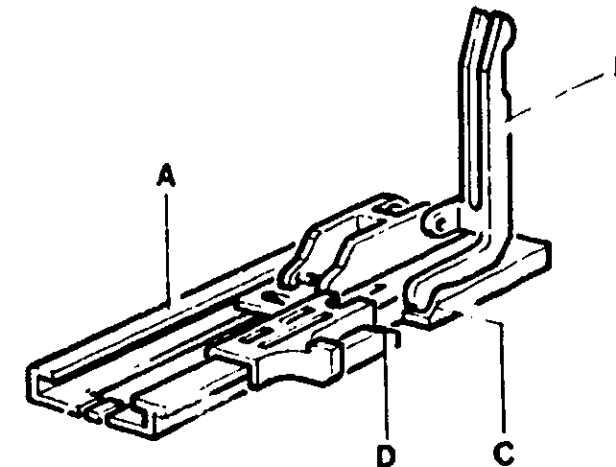
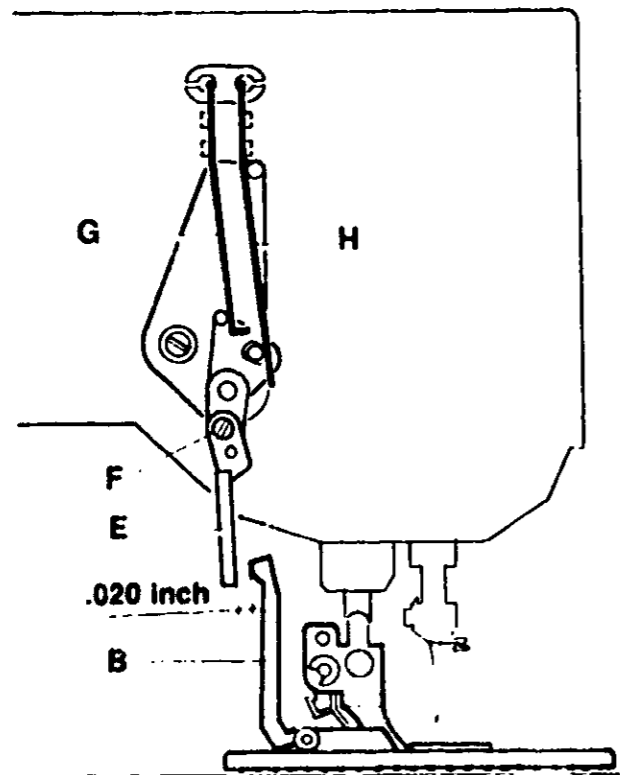

FIGURE 59
FIGURE 61
- Check foot before installing it on the machine. Be sure that sole (A) slides smoothly along its guide and lever (B) swings without any jump (Figure 59).
- Be sure that springs have the right tension to reposition both sole (A) and lever (B) properly.
- When the sole (A) is moved so that lever (B) is between slants (C) and (D) (Figure 59) lever (B) should not be putting any pressure on lever (E) which allows the commutator bar (G) to move away from commutator bar (H) (Figure 61).
- There must be a .020 inch (5 mm) clearance between lever (B) and lever (E). Use feeler gauge to check clearance.
- If the clearances described above are not met, loosen screw (F) and adjust lever (E) (Figure 61). Tighten screw (F) and recheck.